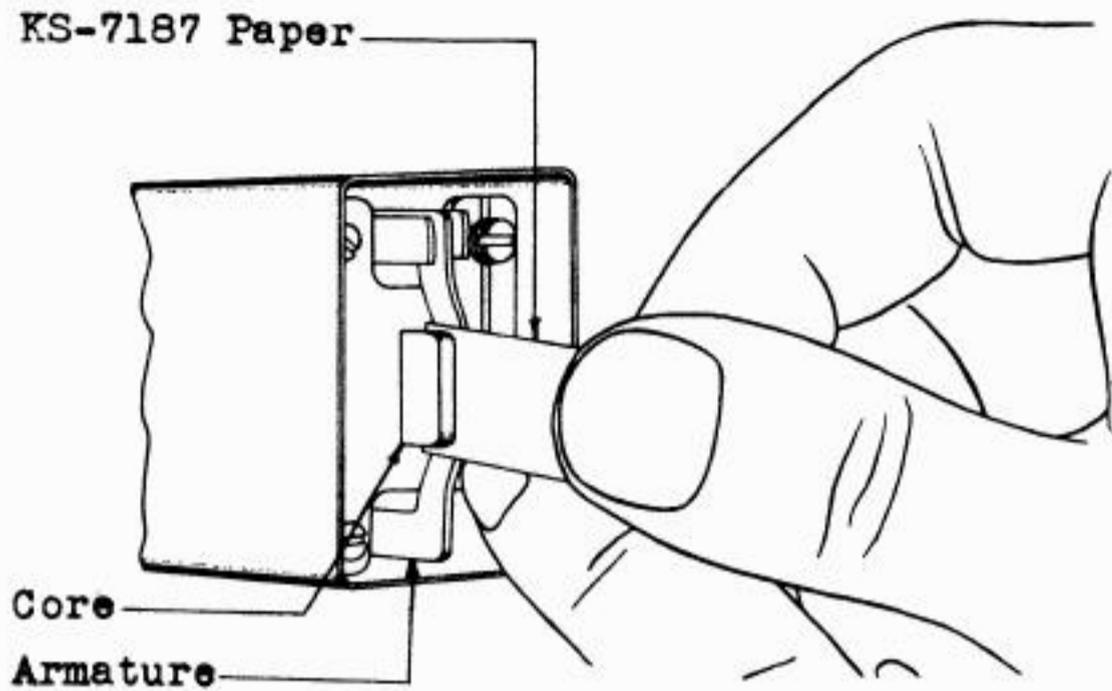

Fig. 25 - Method of Cleaning Armature and Core of B and G Type Relays
6.04 Cleaning Armatures and Cores or Pole-pieces of B, G, J, L, N, S, 177, 203, 221, 222, 223, 224, 225, 247, 248, 251 and 252 type relays. Proceed as outlined in 6.03 using KS-7187 paper instead of KS-7188 paper. See Figs. 25, 26 and 27.